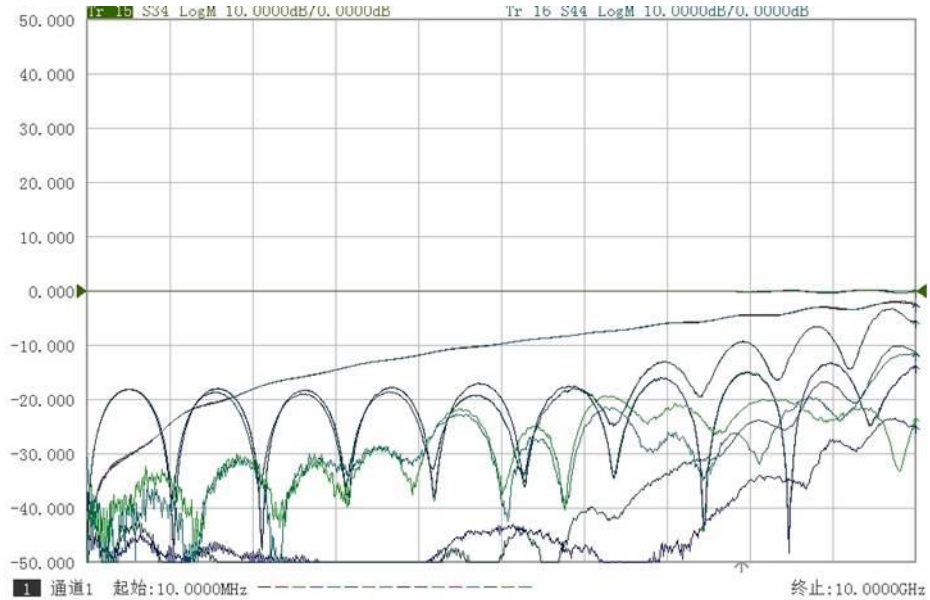

Figure 4.25 Results of single-ended parameter extraction and double-port de-embedding
1) Then perform single-ended parameter extraction for the differential straight-through as single-ended devices without coupling relationship. Then perform differential straight-through and de-embedding of the dual ports. This process the same lines as calibration using homemade TRL calibrators. The test results are as shown in Figure 4.25, the transmission parameters are well removed, but the near-end crosstalk and far-end crosstalk in the differential pairs are not removed.